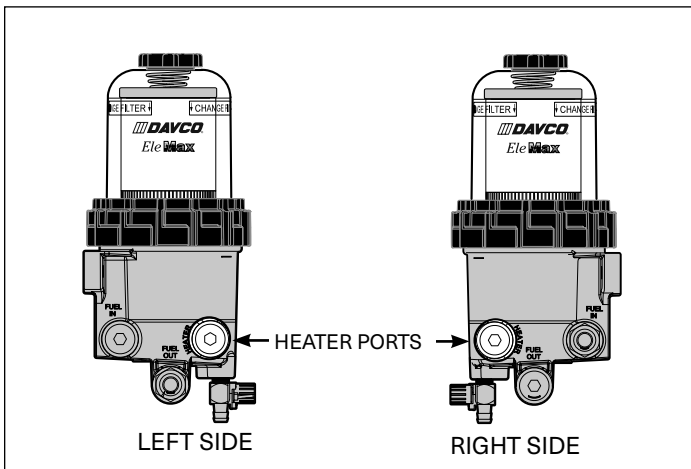

Figure 1
2. Remove the plug from either heater port. Use the port that provides the easiest access (see Figures 1 and 2).